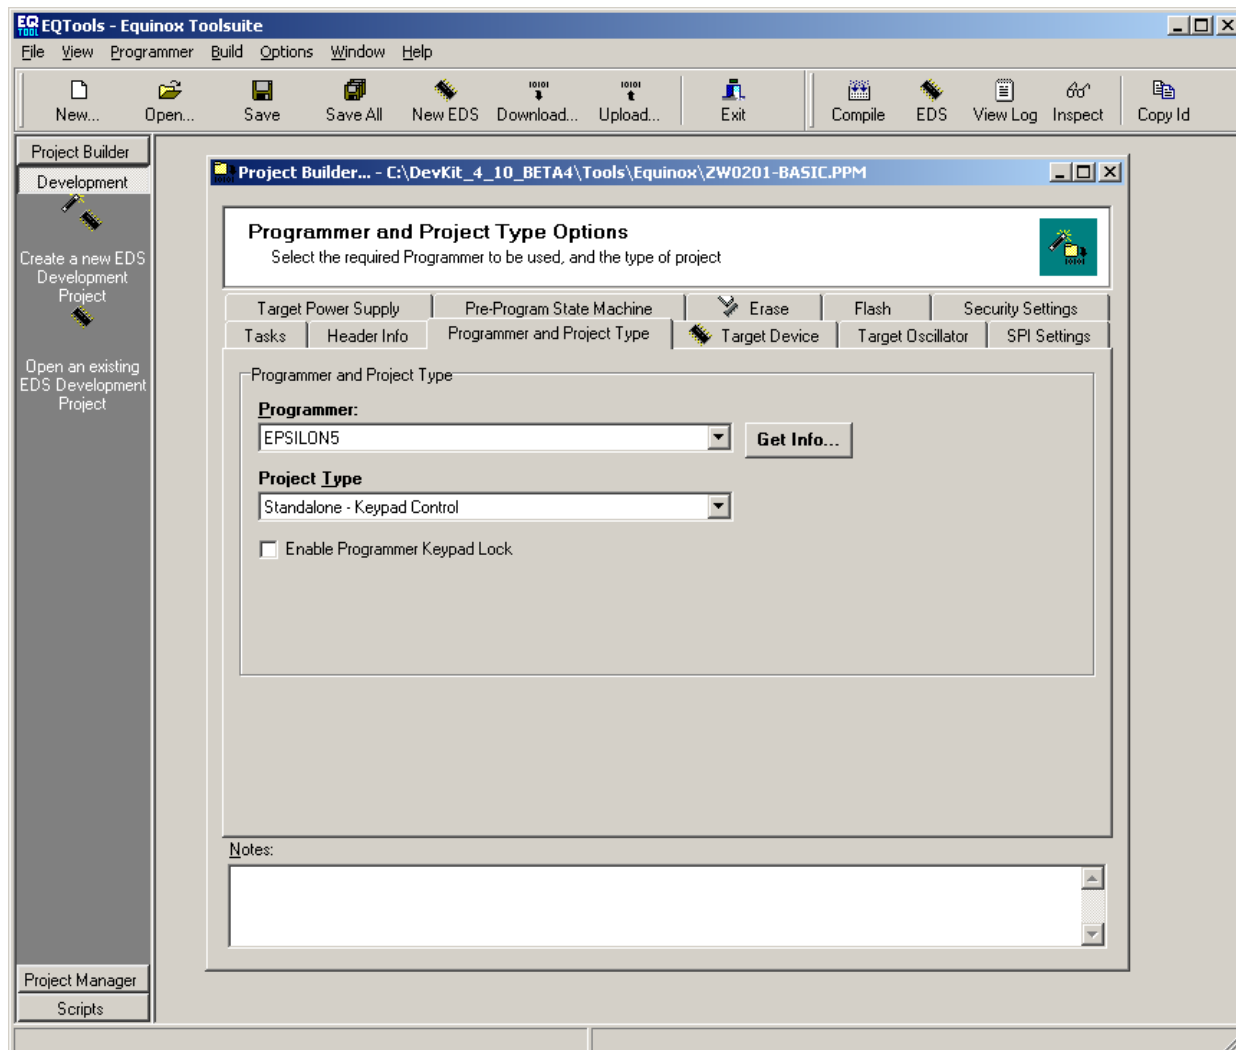

Figure 13 Programmer and Project Type window
5. Open the Target Programmer window by clicking the *Programmer and Project Type* as depicted in Figure 13